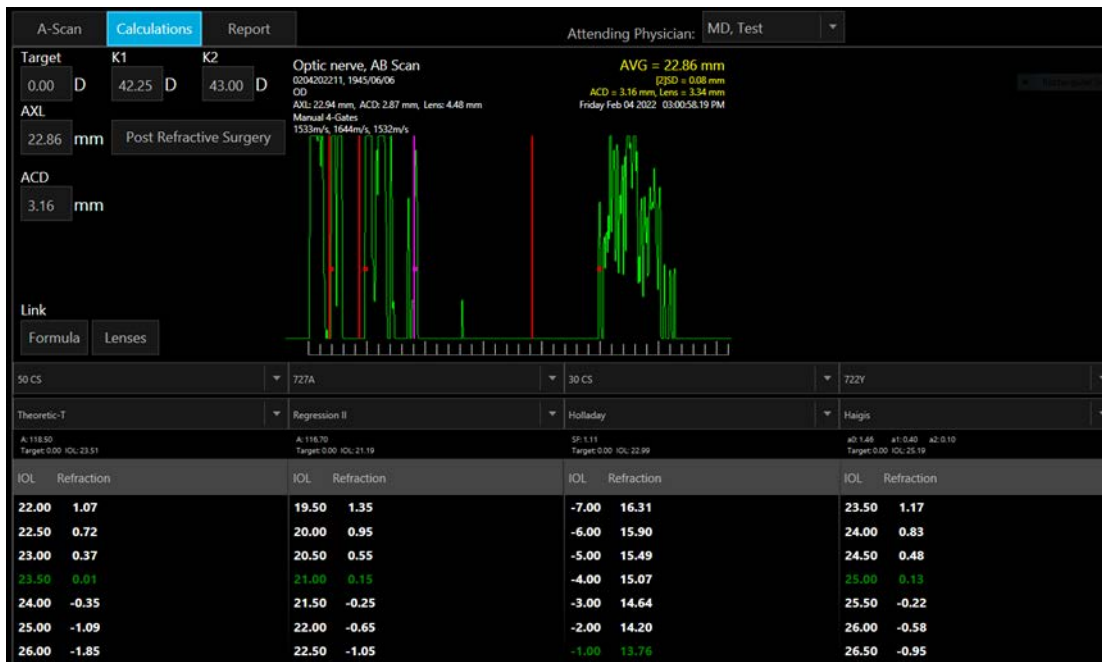

Figure 21: Calculation Tab
- ⑧ Select the [Calculation] tab to switch to Calculation mode as shown in Figure 21.